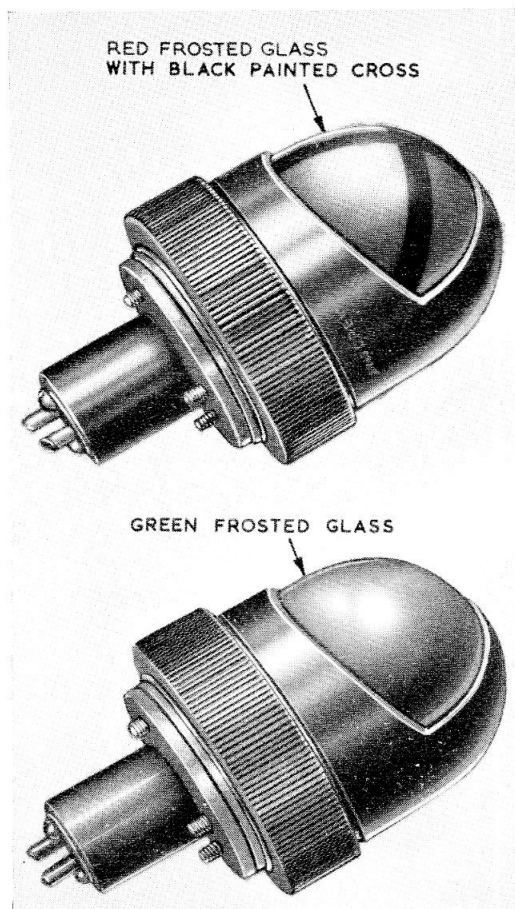

Fig. 1. Lamps, paratroop, signal
2. These lamps (fig. 1) are an adaption of the navigation lamp, Type A, described in Chap. 12. They are identical in construction the essential difference being that of the colour of the glass as mentioned in para. 1. In addition the glass in these lamps is frosted externally.
5. The glass is a complete dome, the outer surface being frosted, the red glass having a black cross painted on its surface, as shown in fig. 1. The glass is partially masked by the screen cap, which is cut away, allowing an aperture of 110 deg. to the vertical. A small hole opposite the screen aperture gives an indication if the lamp is alight.